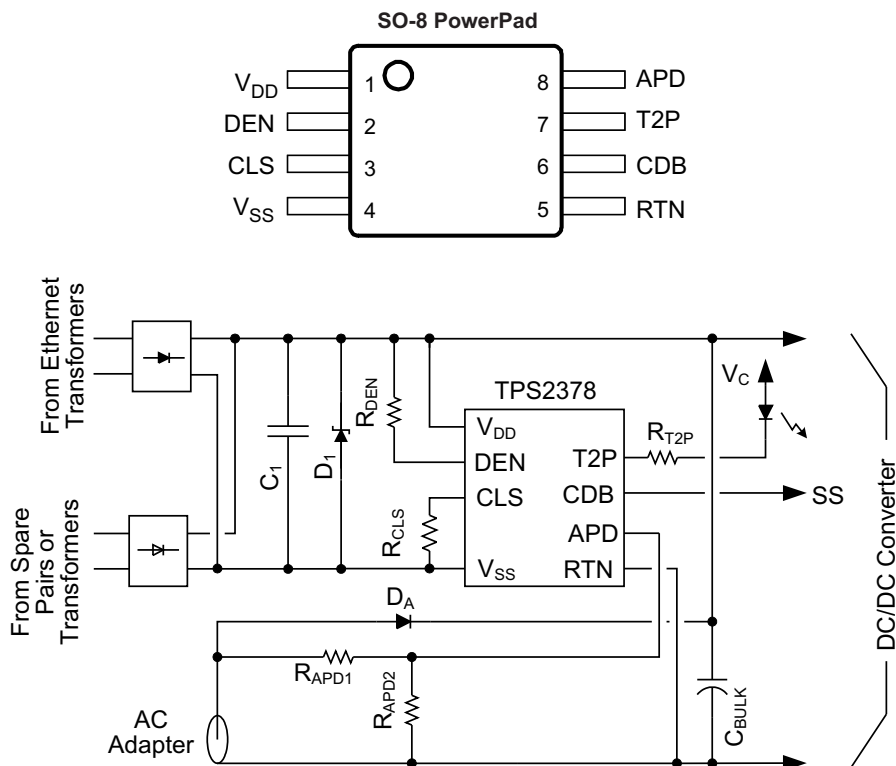

Figure 1. Typical Application
(1) Stresses beyond those listed under “absolute maximum ratings” may cause permanent damage to the device. These are stress ratings only and functional operation of the device at these or any other conditions beyond those indicated under “recommended operating conditions” is not implied. Exposure to absolute-maximum-rated conditions for extended periods may affect device reliability.
(2) With I_(RTN) = 0
(3) Do not apply voltages to these pins
(4) SOA limited to RTN = 80 V at 1.2 A.
(5) Discharges applied to circuit of Figure 1 between RJ-45, adapter, and output voltage rails per EN61000-4-2, 1999.